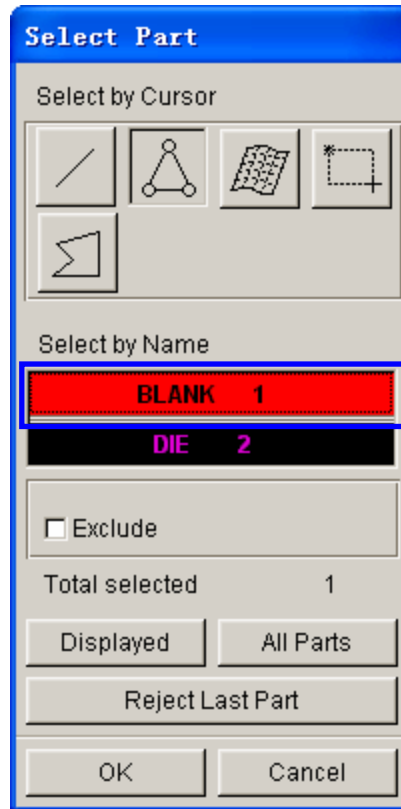

Figure 4.8 Select part dialog box
4. Click **Add Part...** button. Use your mouse cursor to select **BLANK** part from the SELECT PART dialog box illustrated in Figure 4.8.